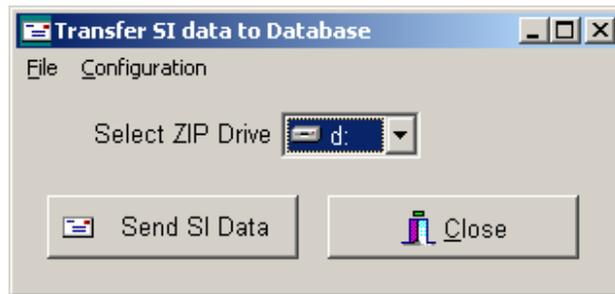

Figure3.4 Send Data window.
1. Click **Send Data** in the SI Manager Station. The Send Data window will now appear as shown in Figure 3.4.